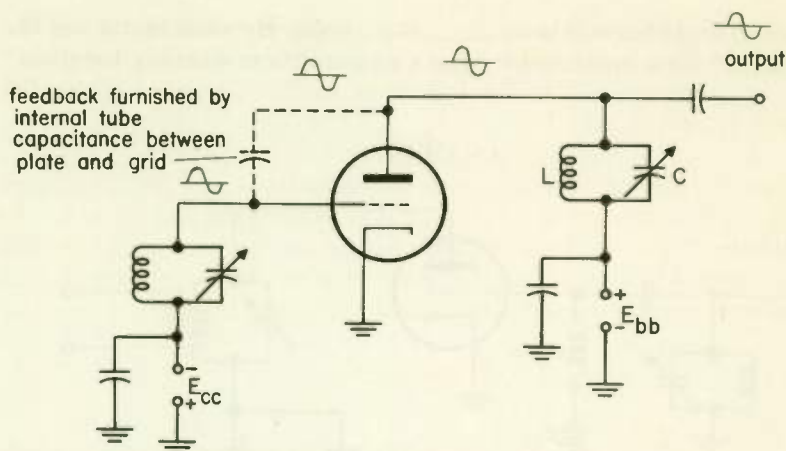

Fig. 17 A TPTG amplifier in use as an oscillator.
Figure 17 shows a TPTG amplifier in use as an oscillator. In this case the output voltage from the plate is fed back to the grid through the internal capacitance between the plate and grid of the vacuum tube. Although this capacitance is very small, it is sufficient to feed back enough voltage to drive the amplifier as an oscillator. No external input signal is needed to start the oscillator, because there are always some tiny stray noise voltages produced by the moving electrons in the tube. These noise signals are magnified in amplitude by the tube and fed back to the input to provide the input signal needed to start oscillations.
2. Is the TPTG oscillator shown in Fig. 17 any different from the circuits for TPTG amplifier which you have been studying so far?